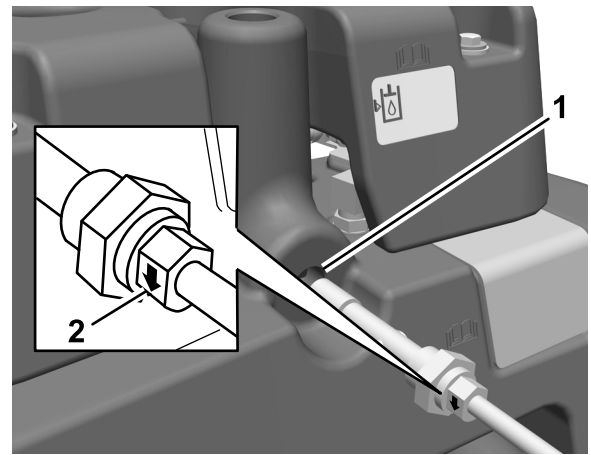

Figure 7 G016177
27. Remove the plug on the main hydraulic tank and install the hydraulic oil level sensor (Figure 7).
Note: Ensure that the indicator arrow on each side of the nut that secures the hydraulic oil level sensor points downward (Figure 7).